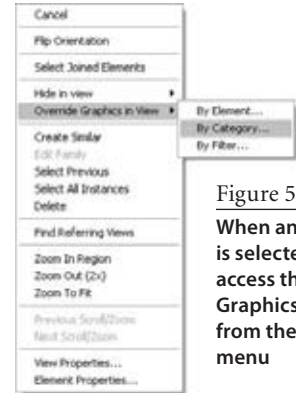

Figure 5.21
- You can also access the dialog box when an element is selected using the right-click menu. Select an element, and choose Override Graphics in View → By Category (Figure 5.21).